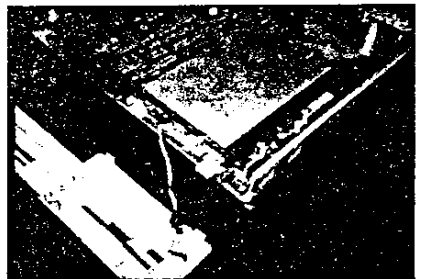

Fig. 3-6. Stand-off Locations
3.3.3 Install the 4 brass stand-offs located at the connectors J10 and J11 at board locations T1, T2, T3, T4. See Fig. 3-6.